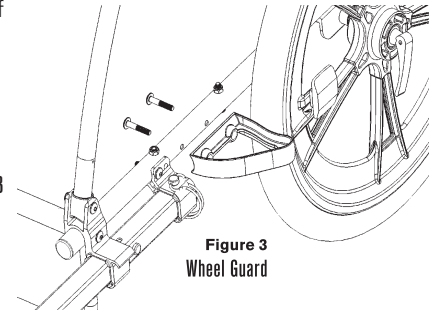

Figure 3
Match holes in wheel guards with holes on outside of lower side frames. From inside of frame, install guards using the hex key wrench (included) to secure the (2) M6 x 35mm screws. Tighten. **Figure 3**